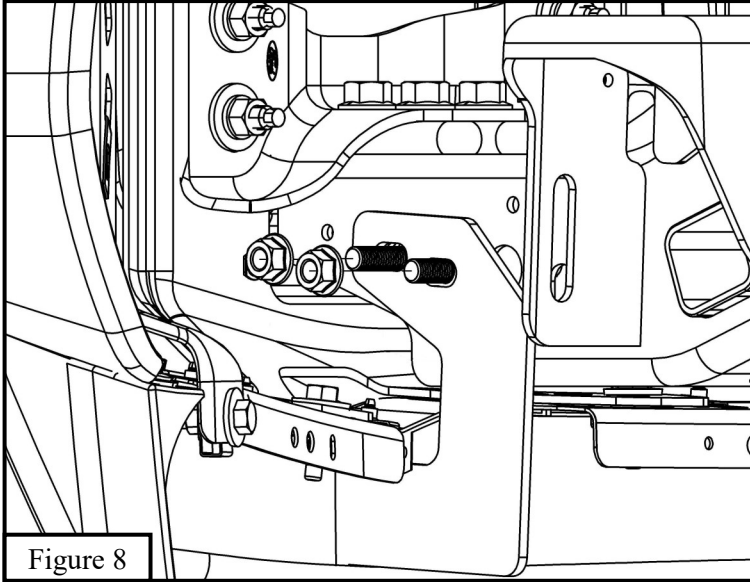

Figure 8
6. Locate (1) Lower Support Bracket (Item 3) and insert through the newly trimmed slots and loosely secure onto vehicle frame using the factory hardware. **See Figure 8.**